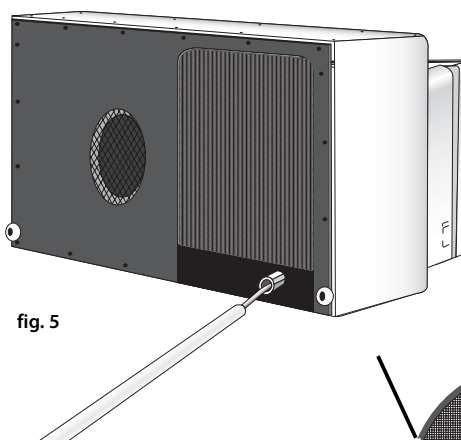

fig. 5
6. Apply junk rings or appropriately insulated flanges on the pipes in order to guarantee ideal contact between the air conditioner and the holes (see Fig. 5).
*cut the galvanized metal sheet of rear side as indicated in the drawing (See fig. 5).*
In order to reduce the length of the electric heating element, just pull it inside the unit as shown in fig. 5 - 6 - 6.1 - 6.2 - 6.3.
4. Insert the plastic pipes of diameter and length adequate to the depth of the wall and the distance from the air conditioner into the holes drilled for air suction and expulsion, making sure that the pipe lined with condensate-proof material can be fitted into hole A as shown in Fig. 5.
5. Make sure that the air expulsion pipe (hole A in Fig. 5) is lined with condensate-proof insulation material along its entire length.
Whenever the pipes supplied are not used, remember to internally line the air expulsion pipe (to be fitted in hole A in Fig. 5) with condensate-proof material for its entire length.
**Important: the cut flange must be applied near hole A shown in Fig. 5 where the insulated pipe will be connected.**